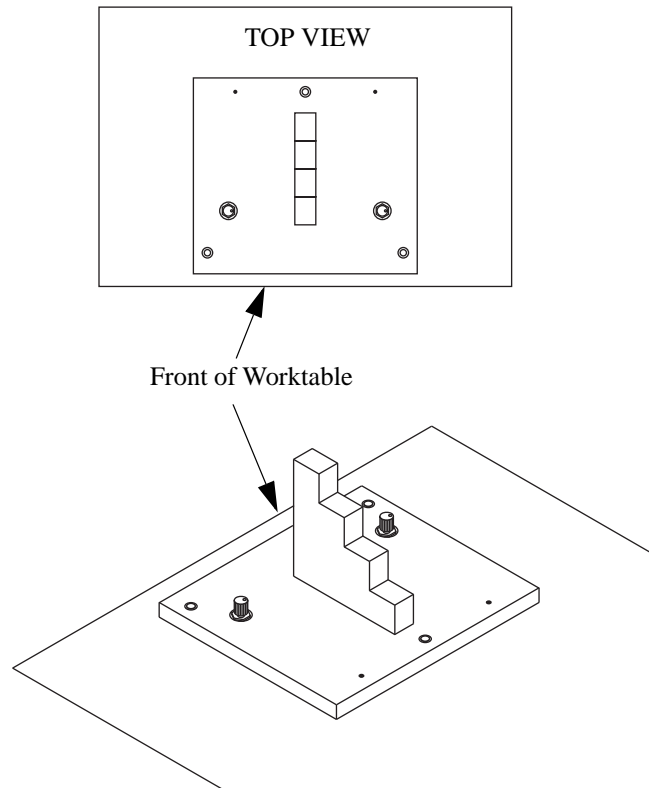

Figure A-2 Mounting the Step Gage on the Worktable
9. Temporarily mount the Z-axis step gage on the worktable as shown in Figure A-2. Make sure: